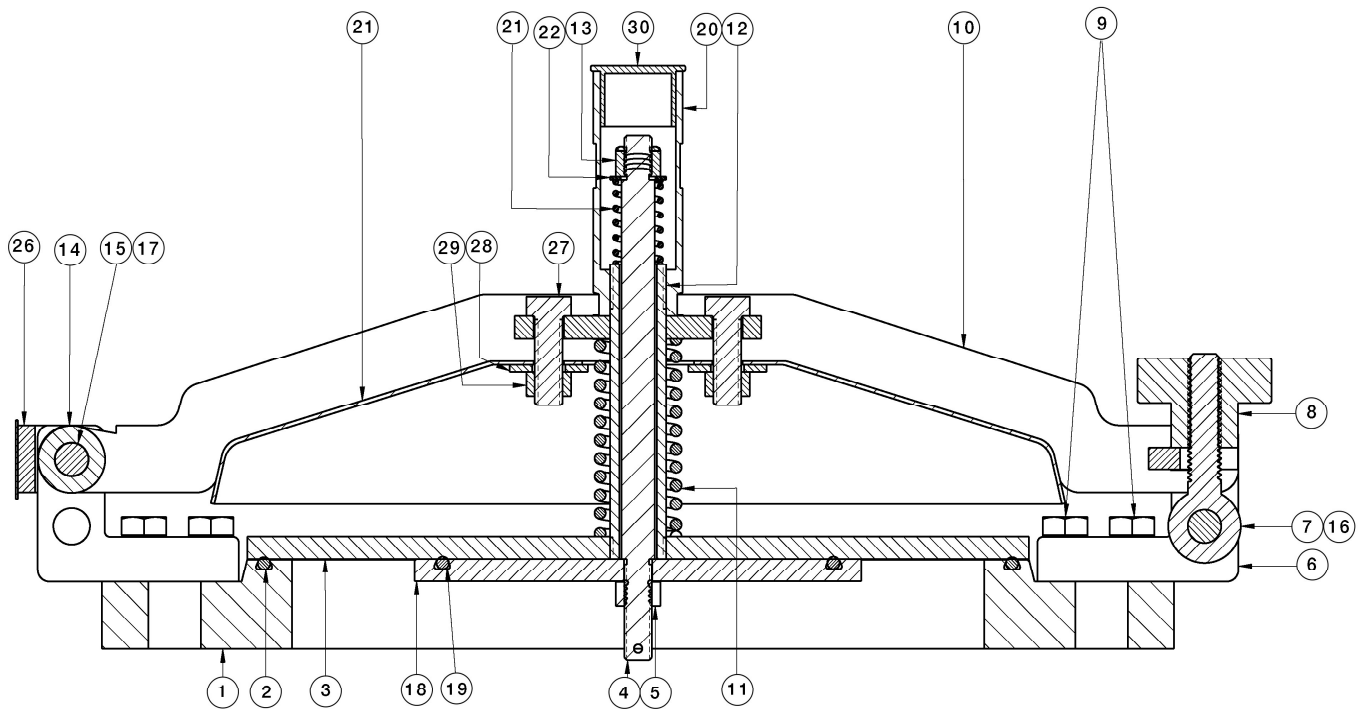

Figure 3: Pressure - Vacuum Model
Annually replace the pressure o-ring (2), vacuum o-ring (19) and vacuum spring (21). Refer to figure 3.
1. Remove knob (8) by rotating CCW.
2. Grab the arm sub assembly (10) with hand. Lift arm/vacuum pallet (10,18) sub-assembly up and turn over so the vacuum pallet (18) (or pressure pallet (3) on pressure or gauge hatch only units) is upwards.
3. Remove pressure o-ring (2) from groove in flange base (1). Examine groove in base (1), clear debris and any imperfections that could cause damage to new o-ring.
4. Replace with new pressure o-ring (2).